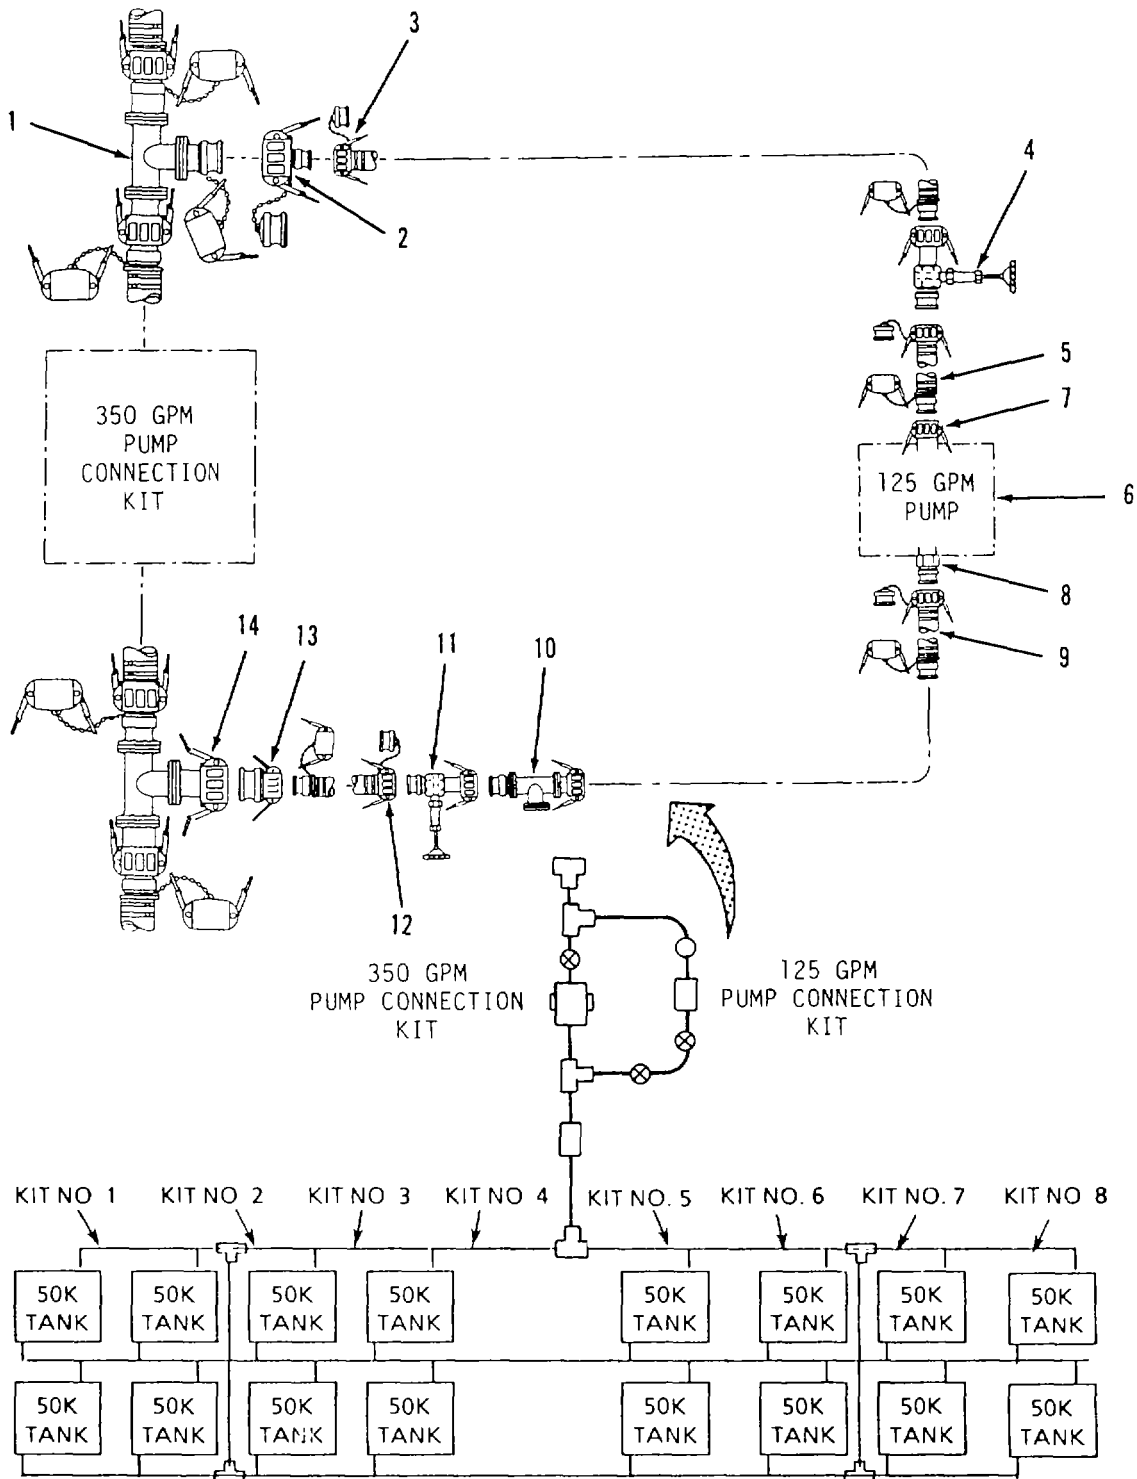

Figure 2-33. 125 GPM Pump Assembly Connection Kit (Water Source)
- (19) Prepare hypochlorination unit (14) for movement. Refer to the applicable TIM.
- (20) Prepare 350 gpm pump (8) for movement. Refer to the applicable TM.
- (21) Drain and allow components to dry.
- (22) Install caps and plugs on component couplings (para 2-10c).
- (23) Roll up all discharge hoses and secure with tape.
i. Disassemble 125 GPM Pump Assembly Connection Kit (Water Source). Refer to figure 2-33.**WARNING**
- (1) Disconnect end of 20 foot discharge hose (12) from adapter (13).
- (2) Disconnect adapter (4-inch male x 2-inch female) (13) from tee (14) (part of 350 gpm pump connection kit).
- (3) Disconnect 20 foot discharge hose (12) from 2-inch gate valve (11).
- (4) Disconnect 2-inch gate valve (11) from check valve (10).
- (5) Disconnect check valve (10) from 20 foot discharge hose (9).
- (6) Disconnect 20 foot discharge hose (9) from male (discharge) coupling (8) on 125 gpm pump (6).
- (7) Disconnect end of 20 foot suction hose (5) from female (suction) coupling (7) on 125 gpm pump (6).
- (8) Disconnect 20 foot suction hose (5) from 2-inch gate valve (4).